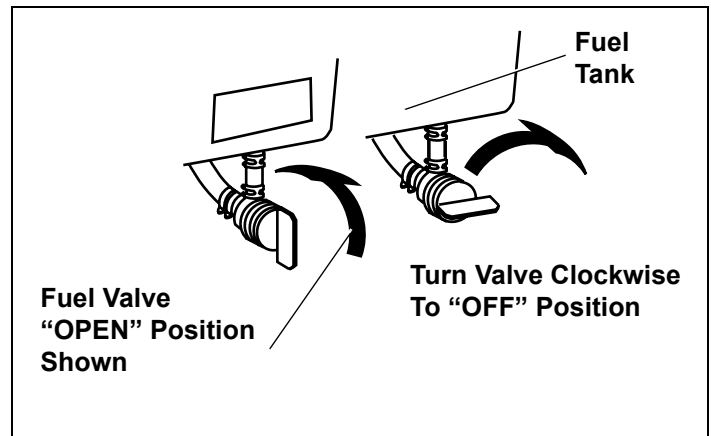

Figure 11. Fuel Valve Positions
6. Be sure fuel valve (optional) is open. See Figure 11.